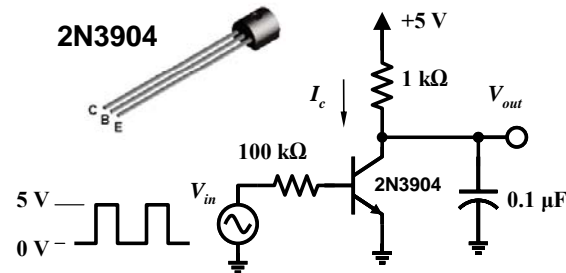

Figure 4-4 – BJT inverter driving a capacitive load.
We've already discussed the simple BJT inverter circuit shown in Figure 4-4. Here we've chosen a bias resistor in the base to give $I_b \approx 50 \mu\text{A}$ with a 5V input signal, so with $\beta \approx 200$ the transistor will pull more than enough current to drive the output low with the $1\text{k}\Omega$ collector resistor shown. Now let's add some capacitance across the output node and see what happens:
- Build the circuit in Figure 4-4, and adjust the function generator to produce a 0-5V square wave. Start with 100Hz, and record the output waveform.